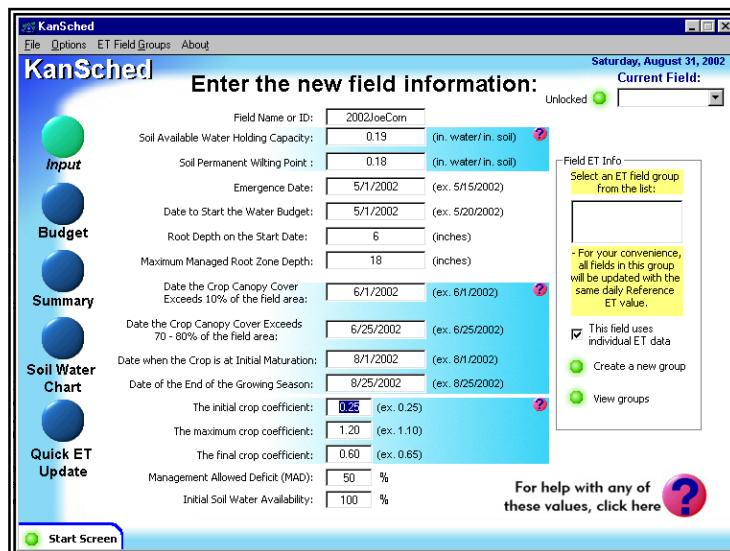

Fig. 3.1 - Main page for *KanSched*. Data can be input from here and options moved on to from here. This centralization makes the program easy to use.
3.-- The **KanSched** program began life as **Kiscorn**, a spreadsheet scheduling program. Kansas State University developed the program. It is very nice looking, which, it is felt, has aided in grower adoption. The program does not use raw weather data, but instead needs ET_o or ET_r data. Kansas has a network of weather stations and ET is available on the Internet. Unfortunately, these data must be hand input at this time. The program's main operations work out of a single page (Fig 3.1) that makes things handy. It displays soil moisture deficit when clicking on "Soil Water Chart". However, the required 16 data input fields are too cumbersome, and seek information that most farmers would not have readily available (e.g., four separate dates regarding maturity stage of the crop [including the date when canopy covers 70-80% of the field]). Fortunately, a help screen is available in which you merely choose season length (and with the already-inputted emergence date) which then provides best estimates for the four required dates. A help screen is also available that will allow one to choose one of the eleven major soil textural groups, rather than having to input what the Permanent Wilting Point and soil available water holding capacity values are.